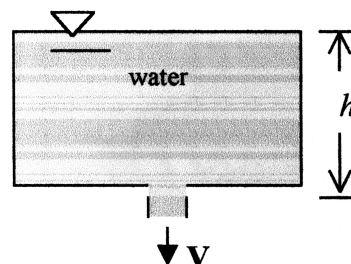

Fig. P3.28
**3.28** According to Torricelli's theorem, the velocity of a fluid draining from a hole in a tank is  $V \approx (2gh)^{1/2}$ , where  $h$  is the depth of water above the hole, as in Fig. P3.28. Let the hole have area  $A_o$  and the cylindrical tank have bottom area  $A_b$ . Derive a formula for the time to drain the tank from an initial depth  $h_o$ .